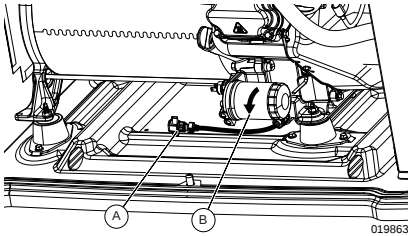
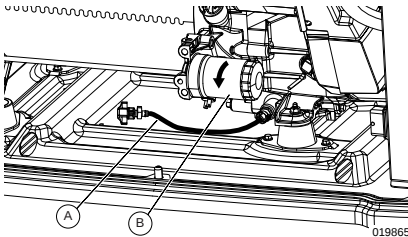
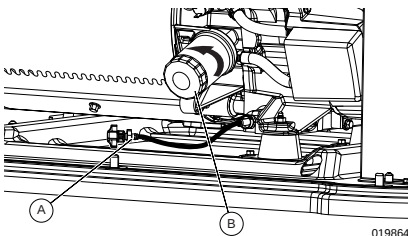

Figure 4-1. Oil Filter and Drain Location (10 kW)
Figure 4-2. Oil Filter and Drain Location (14–18 kW)
Figure 4-3. Oil Filter and Drain Location (22–28 kW)
5. See Figure 4-1, Figure 4-2, and Figure 4-3. Remove front panel when unit has cooled. Pull oil drain hose (A) free of retaining clip. Remove cap from oil drain hose and place free end into a suitable container. Drain oil.